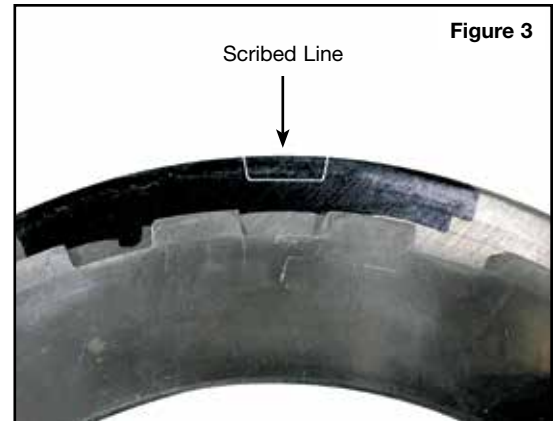

Figure 3
- a. Apply machinist layout fluid, a black marking pen or other marking material to both sides of intermediate backing plate in area shown (**Figure 3**).
- c. Scribe the new lug notch in the area shown (Figure 3).